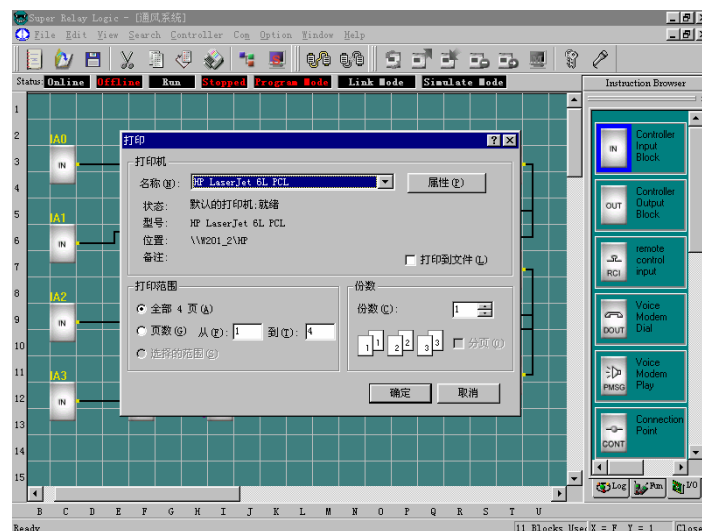

Fig 4.16 File Print
2. Dialog box as shown in fig 4.16 appears, set up your printing requirement according to the cue of dialog box.